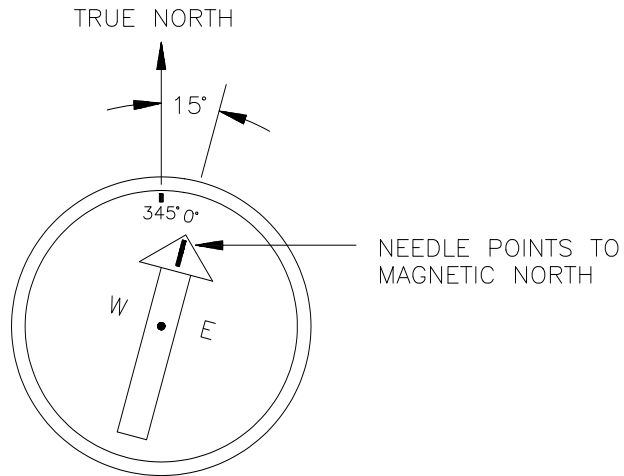
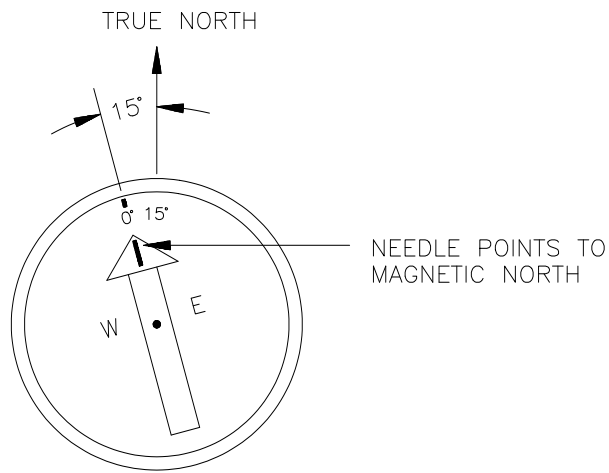

FIGURE 8.3-2. A declination angle East of True North (positive) is subtracted from 360 (0) degrees to find True North
FIGURE 8.3-3. A declination angle West of True North (negative) is subtracted from 0 (360) degrees to find True North
Declination angles are always subtracted from the compass reading to find True North. A declination angle East of True North is reported as positive a value and is subtracted from 360 (0) degrees to find True North as shown in Figure 8.3-2. A declination angle West of True North is reported as a negative value and is also subtracted from 0 (360) degrees to find True North as shown in Figure 8.3-3. Note that when a negative number is subtracted from a positive number, the resulting arithmetic operation is addition.